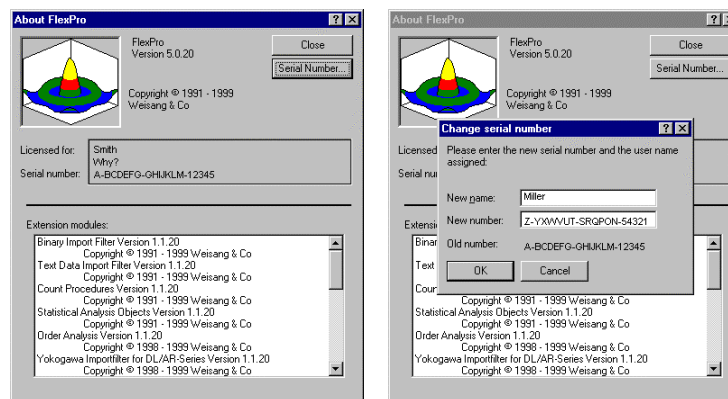

Figure III.4: License information and installed extension modules
*Note:* Behind some of these buttons in the listed toolbars are extension modules, the installation of which is not compulsory. To investigate which extension modules are included in FlexPro, click the last but one button *Info* in the *Standard* toolbar, or open the help menu ? and choose *Info on FlexPro...* . Both these actions open a dialog named *About FlexPro*, providing useful information such as License holder and the Serial number. The currently installed ones are all listed in the *Extension modules*: list (Fig. III.4, left). These include for example Import- and Statistical analysis functions. Clicking on the button *Serial number...* opens a subsequent dialog named *Change serial number*, in which the serial number and license holder can be newly assigned. This button gets into action, if one or several extension modules are installed afterwards, as the activation of these modules follows only after entering a new serial number (Fig. III.4, right).